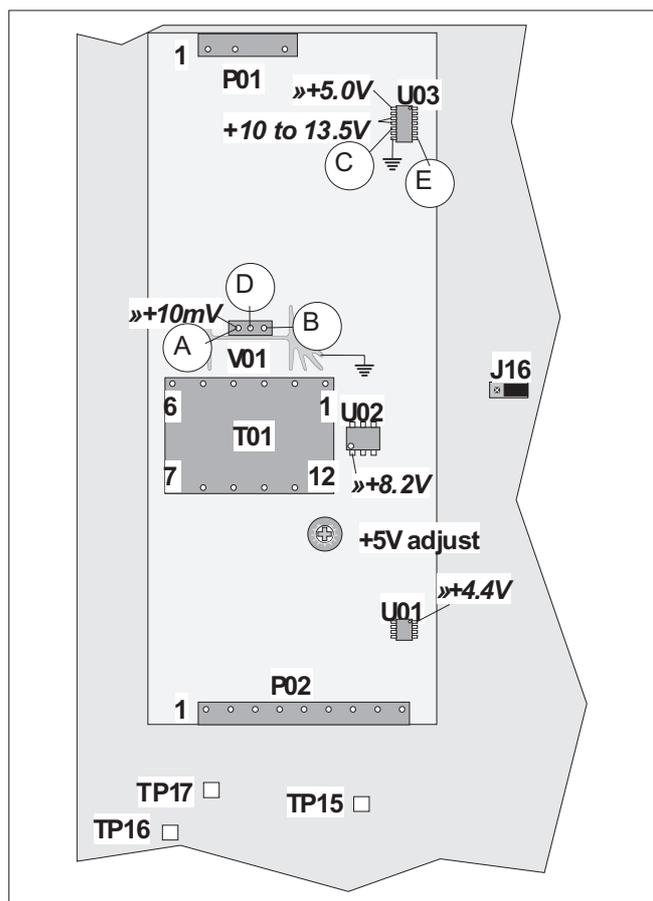
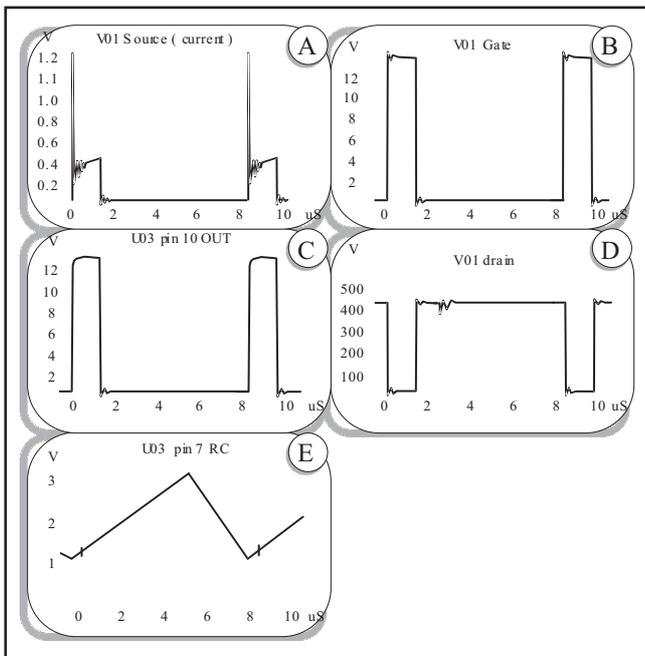

Fig. 9-9 Test points and voltages for the power supply.
Fig. 9-10 Typical curves of the power supply.
- Disconnect the power module from the main PCA and check the resistance between pin 1 and 4 on the transformer T01, see Fig. 9-9. If the DMM shows a short circuit, the fault is probably a broken transistor V01. Put the power module back.
- Check the waveforms in Fig. 9-10 at the corresponding testpoints in Fig. 9-9 to verify the primary circuits. Use the heat-sink of V01 as ground.